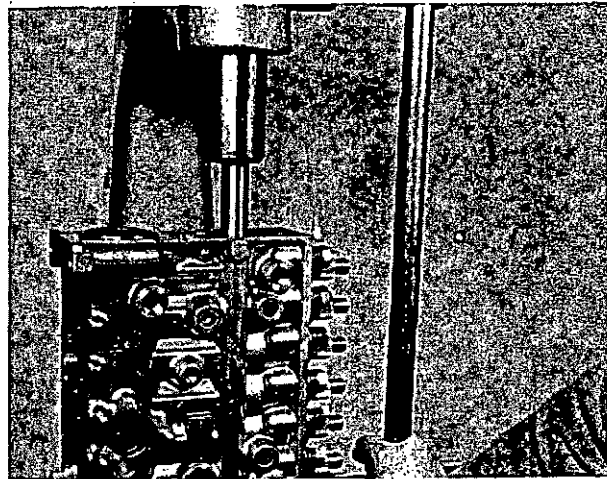

Fig. 36 Pressing in guide block
9. Use a suitable tube to press the guide block fully home (fig. 36), taking care that it does not become tilted. Secure it by screwing in the threaded bush to a torque loading of 22 to 29 lbf. ft. (30 to 39 Nm), using pin spanner 1 687 950 075.